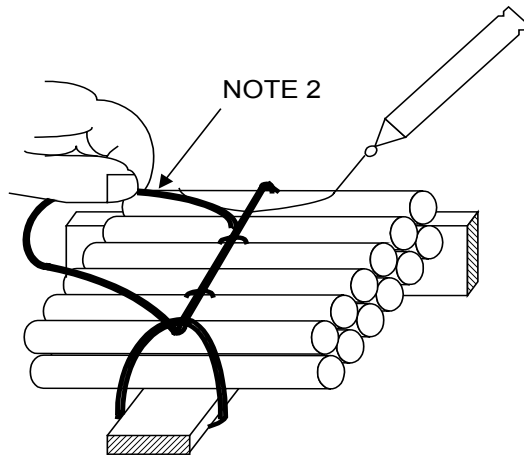

FIGURE 16b
2. PULL END OF TWINE UNDER FIRST STITCH WITH AN EVANS NEEDLE (FIGURE 16b).